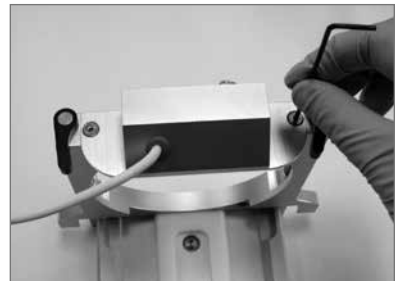

Figure 6: Securing the electronics housing assembly onto the interface flange
4. Secure the sheath gas enabled electronics housing assembly onto the interface flange using the two 6-32 x 5/16" flat head screws provided (Figure 6)